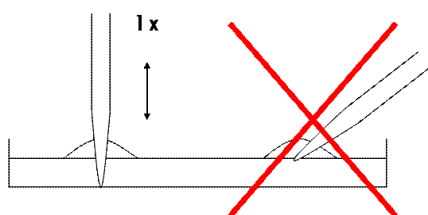

Figure 1: Correct colony sampling
3. Pierce through a single colony into the agar using a colony sampler. Briefly touch the bottom of the plate and take the sampler out again. Always keep the colony sampler in a vertical position as shown in Figure 1.